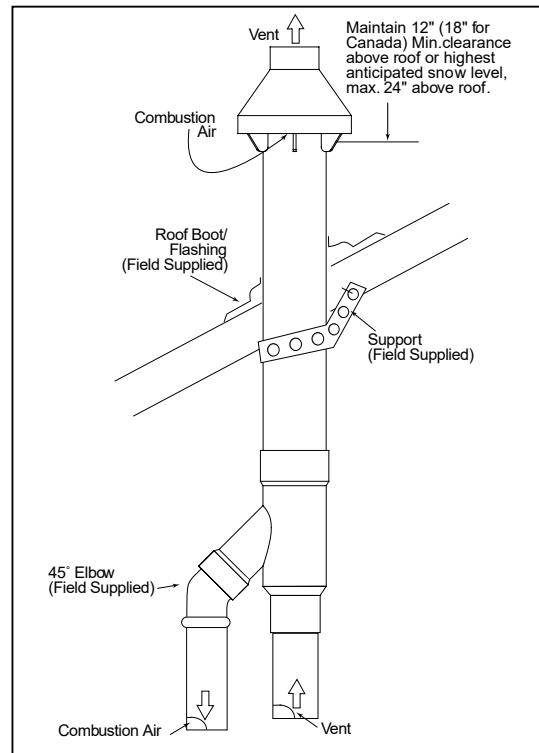

Fig.7-13 Roof Installation
- Install cemented Y concentric fitting and pipe assembly through structure's hole and field supplied roof boot/flashing. See Fig.7-13).
IMPORTANT: Make sure the termination height is above the roof surface or anticipated snow level (12 inches in U.S.A. or 18 inches in Canada). If the assembly is too short to meet the height requirement, the 2 pipes supplied in the kit may be replaced by using the same diameter, field supplied SDR-26 PVC (D2241) pipe. Do not expand dimension "D" more than 60 inches. See Fig.7-13.